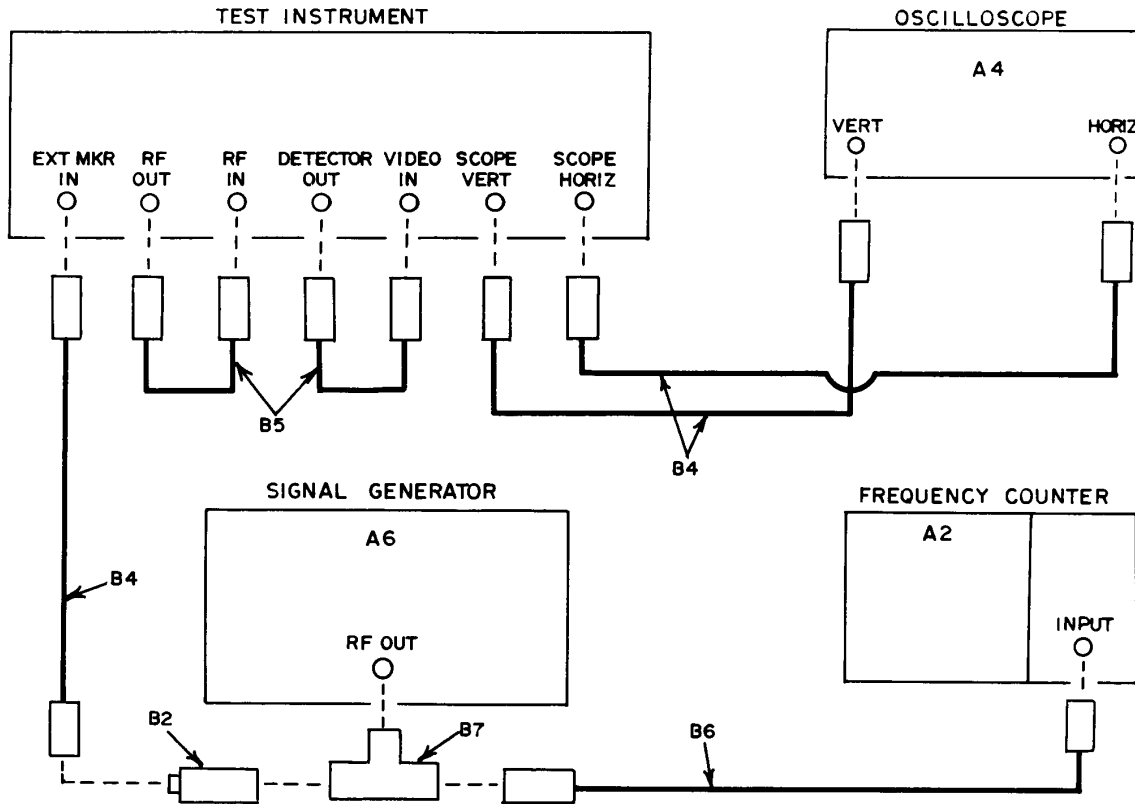

Figure 2. Internal markers - equipment setup.
(1) Connect equipment as shown in figure 2.
- (2) Adjust R302 (fig. 2) for a 100-millivolt peak-to-peak 50 MHz marker (R).